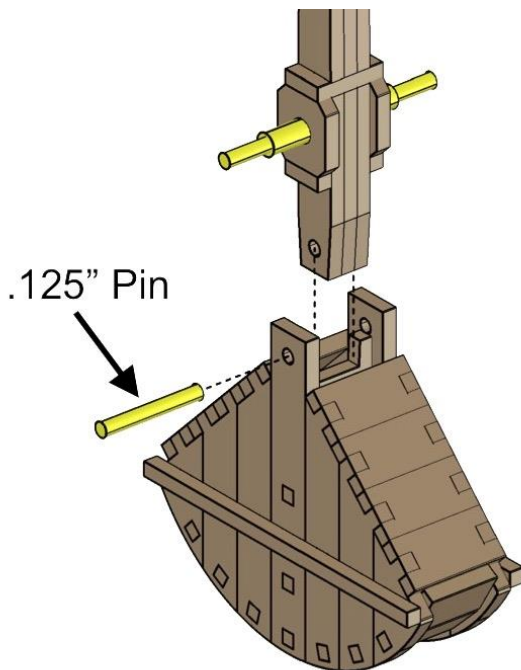

Fig. 64
- Align parts exactly as shown in *Fig. 64*.